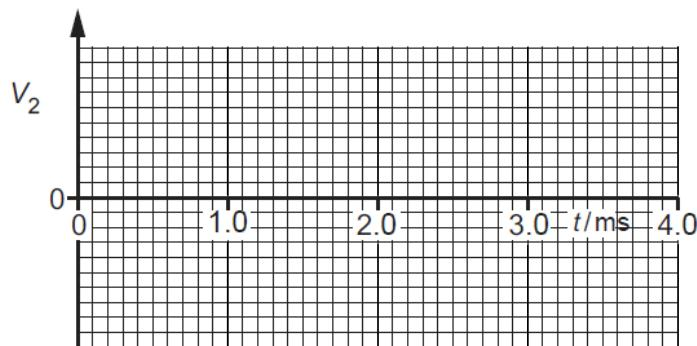

Fig. 5.3
- (c) On Fig. 5.3, sketch the variation with t of V_2 between $t = 0$ and $t = 4.0 \text{ ms}$.